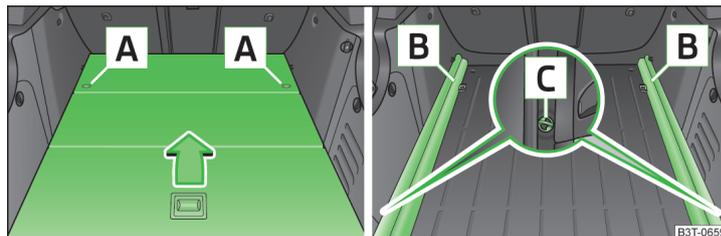

Fig. 112 Boot: Remove variable loading floor/remove carrier rails
- Unlock the variable loading floor by turning the safety eyes **A** » Fig. 112 to the left by around 90°.